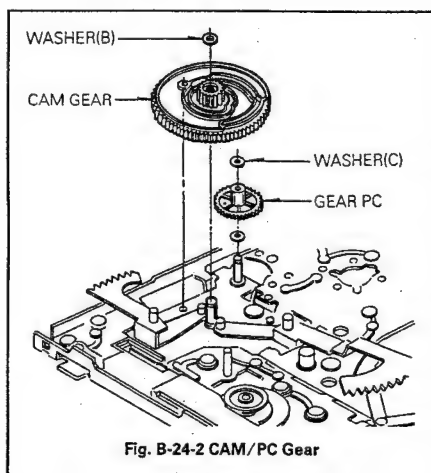

Fig. B-24-2 CAM/PC Gear
### 24. Cam Gear/Rack Gear T/Rack Gear FL(Fig. B-24-2)
- 2) Remove the washer(B), and then remove the Cam Gear (Fig. B-24-2).